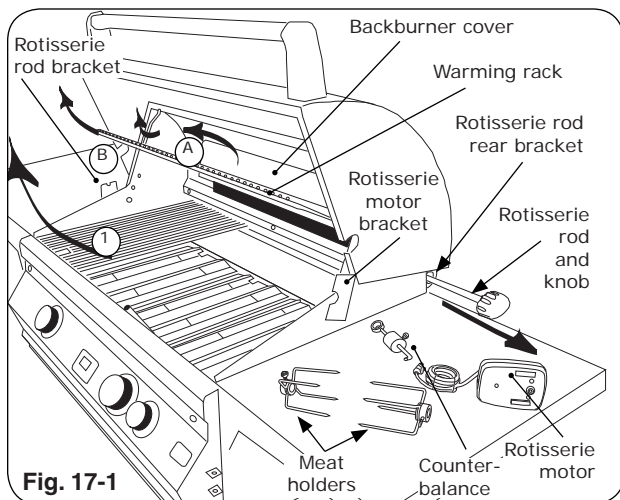
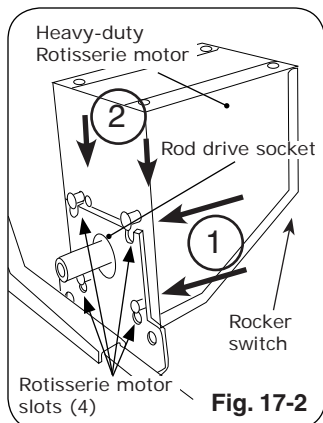
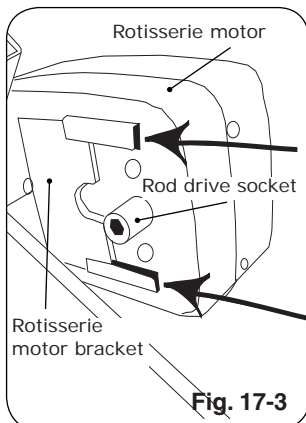

Fig. 17-1
Fig. 17-2
Fig. 17-3
2. Slide rotisserie motor fully onto motor bracket (right side, Fig. 17-2 or Fig. 17-3, and Fig. 17-1).
3. Remove rotisserie rod from rear bracket (Fig. 17-1) and attach knob if necessary.